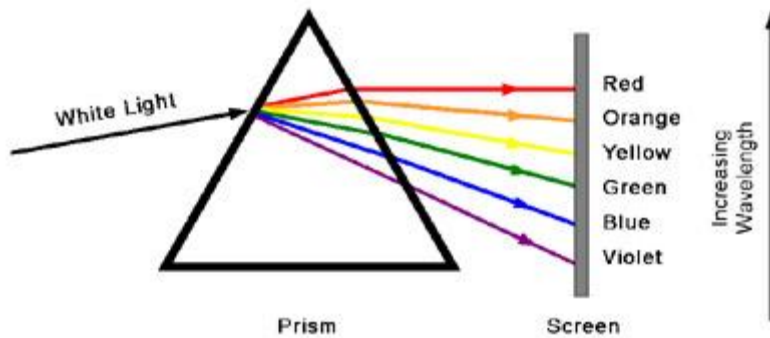

Fig. 2
(7) White light consists of a mixture of many different wavelengths. A prism can be used to disperse white light into its component wavelengths (colors), as in Figure 2.